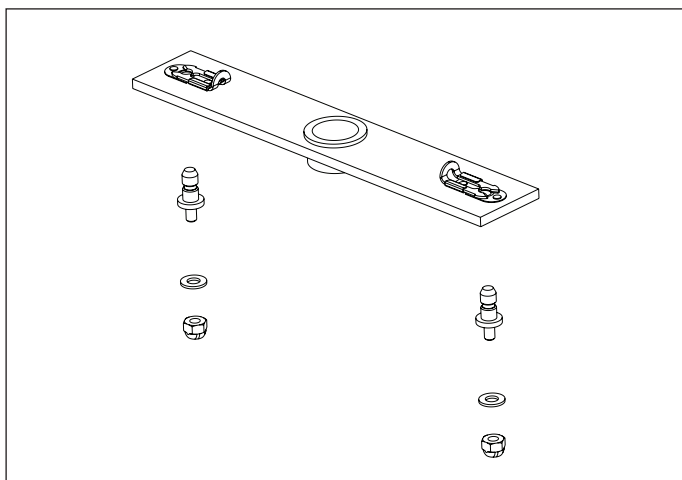

Figure 18. Auger Bearing Bracket and Hardware
4. Remove hardware and discard (Figure 18).